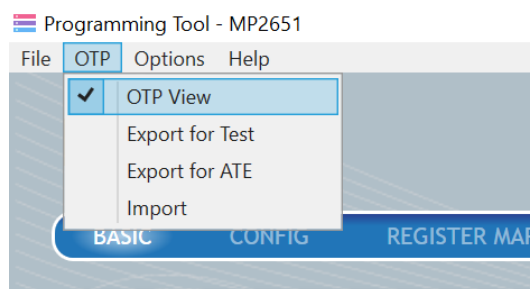

Figure 11: Select OTP View
3. Select “OTP View” in the toolbar (see Figure 11).